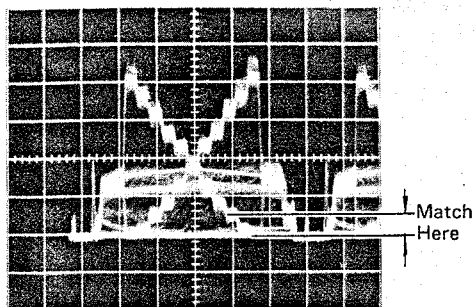

Fig. 6-4-41
- Adjust RED PEDESTAL VR305 so that the R signal matches the Y_L signal in the 0~2nd step of gray scale waveform. (Fig. 6-4-41)